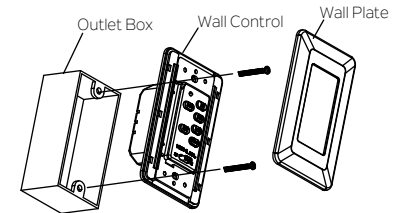

Fig. 20
**Step 2.** Use the screws provided to secure the wall control to the outlet box.(Fig. 20)